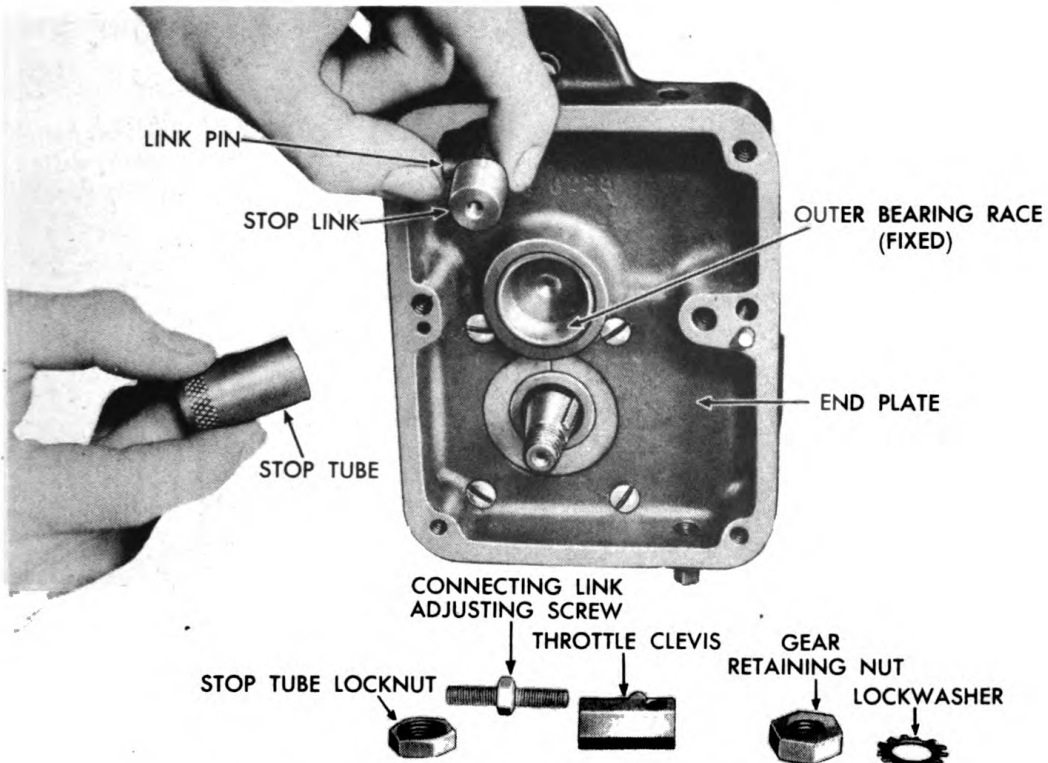

Figure 222. Assembling Stop Link and Stop Tube.
2. Install the smoke stop as shown in Figure 222. No adjustment can be made at the present time.